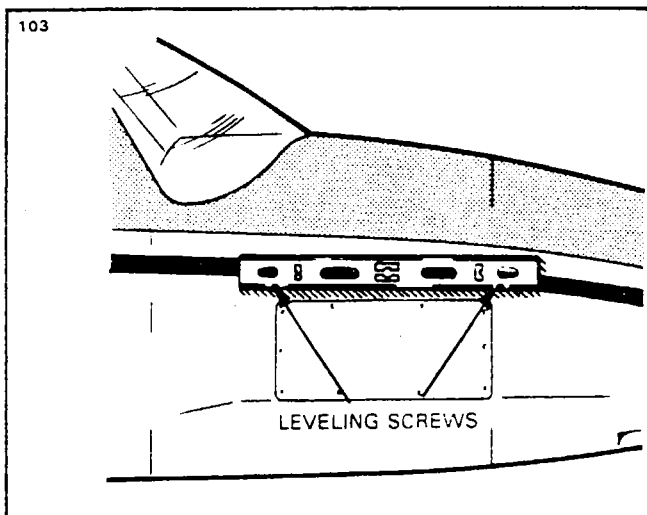

Figure 2-8. Leveling Longitudinally
- a. To longitudinally level the airplane, partially withdraw the two leveling screws located on the right side of the fuselage nose section at stations 59.3 and 80.7. (Refer to Figure 2-8.) Place a spirit level on these screw heads and deflate the nose wheel tire or adjust the jacks until the bubble of the level is centered.